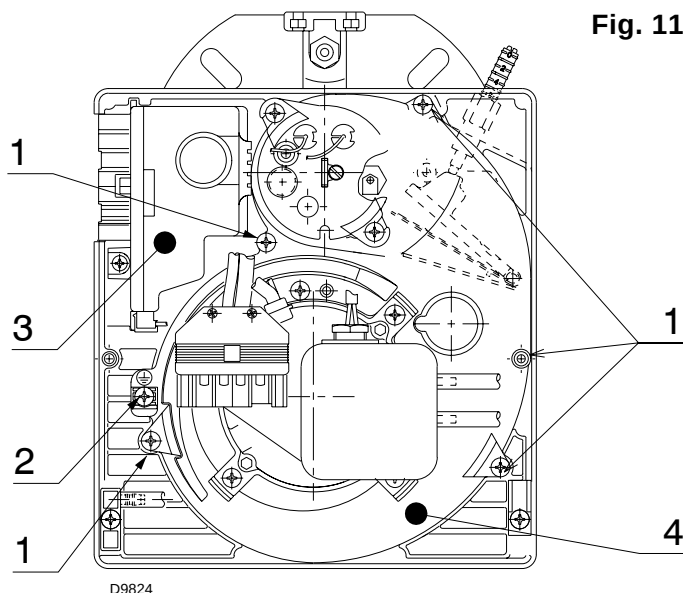

Fig. 11
- undo the screws (1) (Fig. 11) and screw (2) ground clamps);
- disconnect the electric wiring from the control box (3);
- take out the suction inlet (4) without disassembling the components.